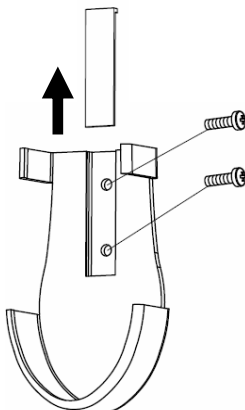

Fig. 14a
2. Remove the screw cover and install the holder using 2 screws and re-install the screw cover. (Fig.14a).